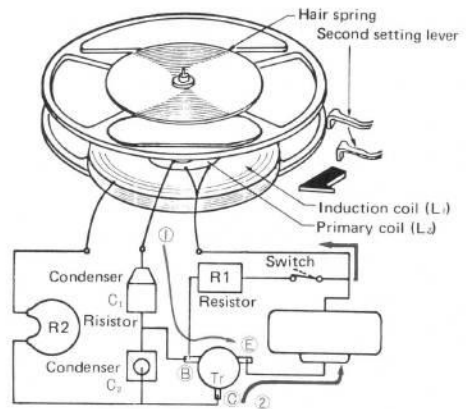

Fig. 1-2
- 1) When the crown is depressed from the hand-setting position (the power cell switch is OFF) into the normal position, the second setting is released and the hand-setting lever let the balance start by kicking it off in the arrow direction (see Fig. 1.2). At the same time, the power cell switch is turned ON and the integrated block is ready to function.
- 3) The weak current generated in the (L₂) flows into the base (B) of the transistor (Tr) and on into the emitter (E) (→ ① in Fig. 1.2). When it flows to (E) from (B), collector (C) and (E) open; as a result, the main current flows through the induction coil (L₁) (→ ② in Fig. 1.2).